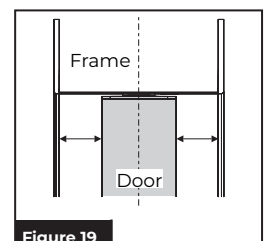

Figure 19
- Door should be centered in frame when in closed position. Adjust slider centering hub with hex wrench until door and frame are aligned properly then tighten adjustment set screws. (Figure 19)